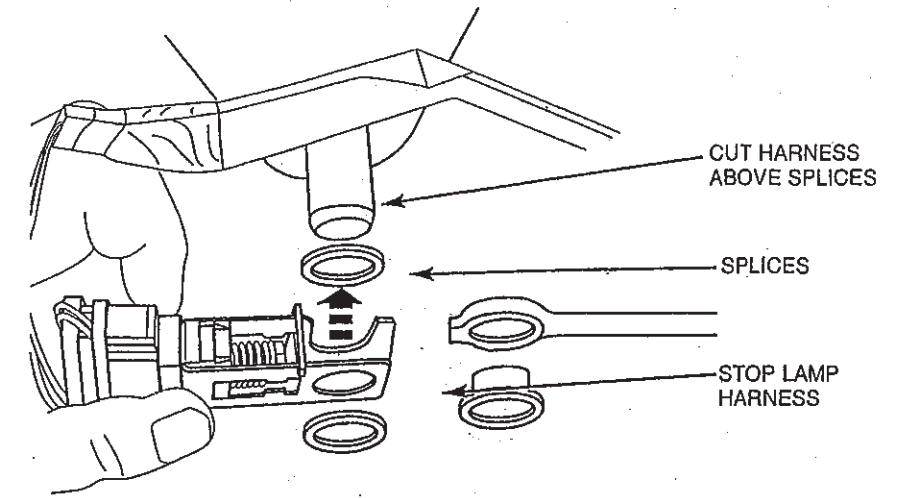

FIGURE 4
5. Remove enough tape to expose the repair area, then cut off the harness above the splices leaving as much of the vehicle harness as possible (the cut off section will include the switch, harness and the TSB-installed splices) (refer to Figure 4).